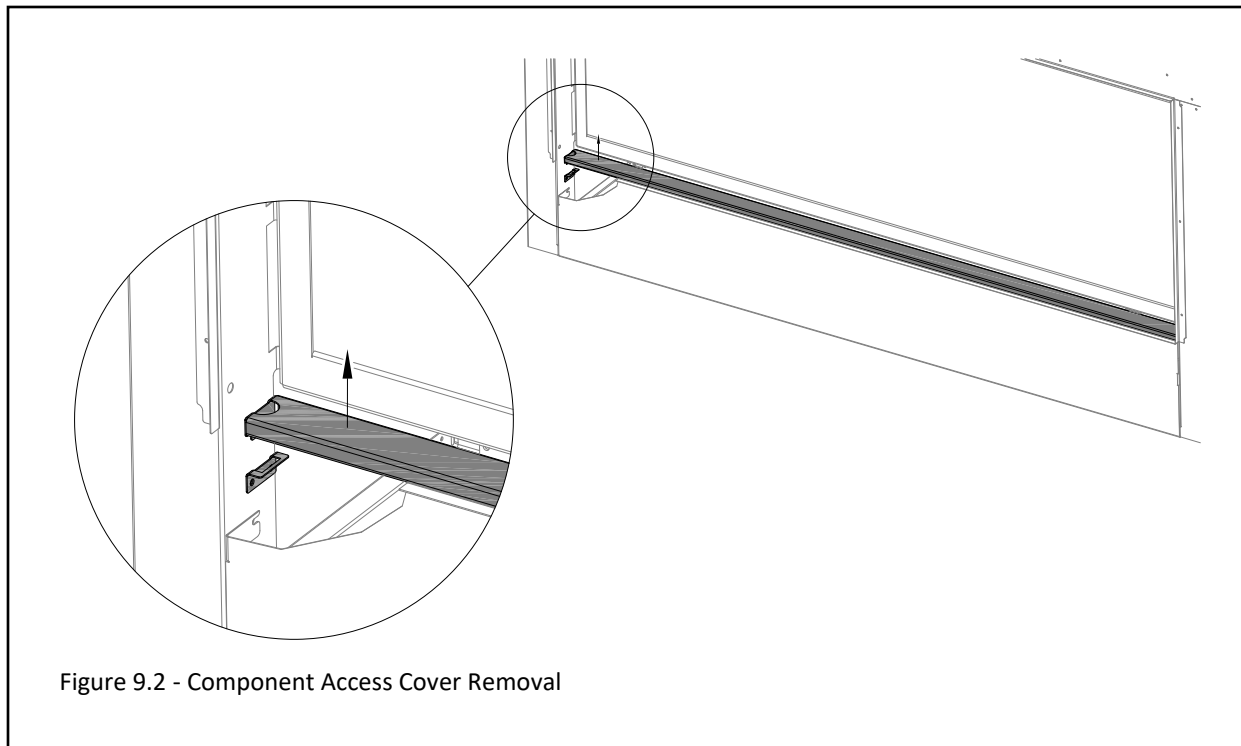

Figure 9.2 - Component Access Cover Removal
2. Lift up and remove the component access cover to gain access below the fireplace. See Figure 9.2.